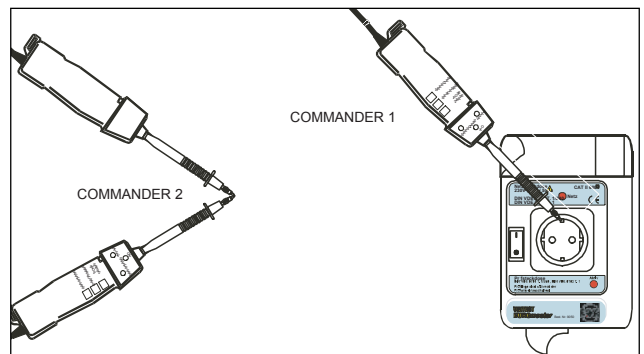

Fig.7.2
- Connect additional measurement accessories (test probe, alligator clamp or test leads) to COMMANDER, short-circuit test probes as shown in Figure 7.2.